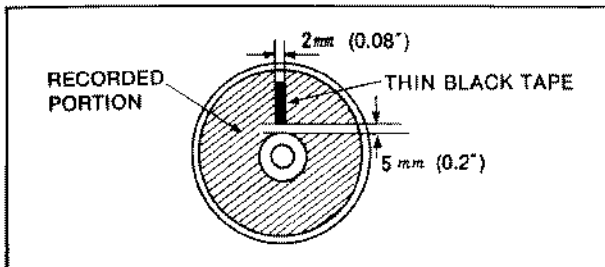

Fig. E23
2. Stick a Black Tape on the LD Test Disc as shown in Fig. E23. Then set it to the Tray so that the dropout side face downward. Then play back the side A.
2. Stick a Black Tape on the LD Test Disc as shown in Fig. E23. Then set it to the Tray so that the dropout side face upward. Then play back the side B.
3. Stick a Black Tape on the LD Test Disc as shown in Fig. E23. Then set it to the Tray so that the dropout side face upward. Then play back the side B.